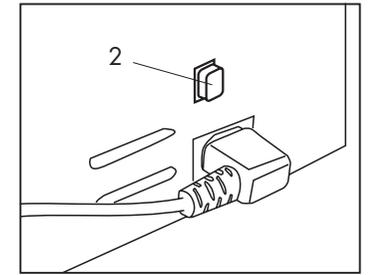

Fig. 4
- Switch on the machine with the main switch (2). **(Fig.4)**
- The control buttons will start to blink slowly; once they reach the temperature, the buttons will light up with a fixed light, indicating that the machine is ready for use **(Fig.4)**.